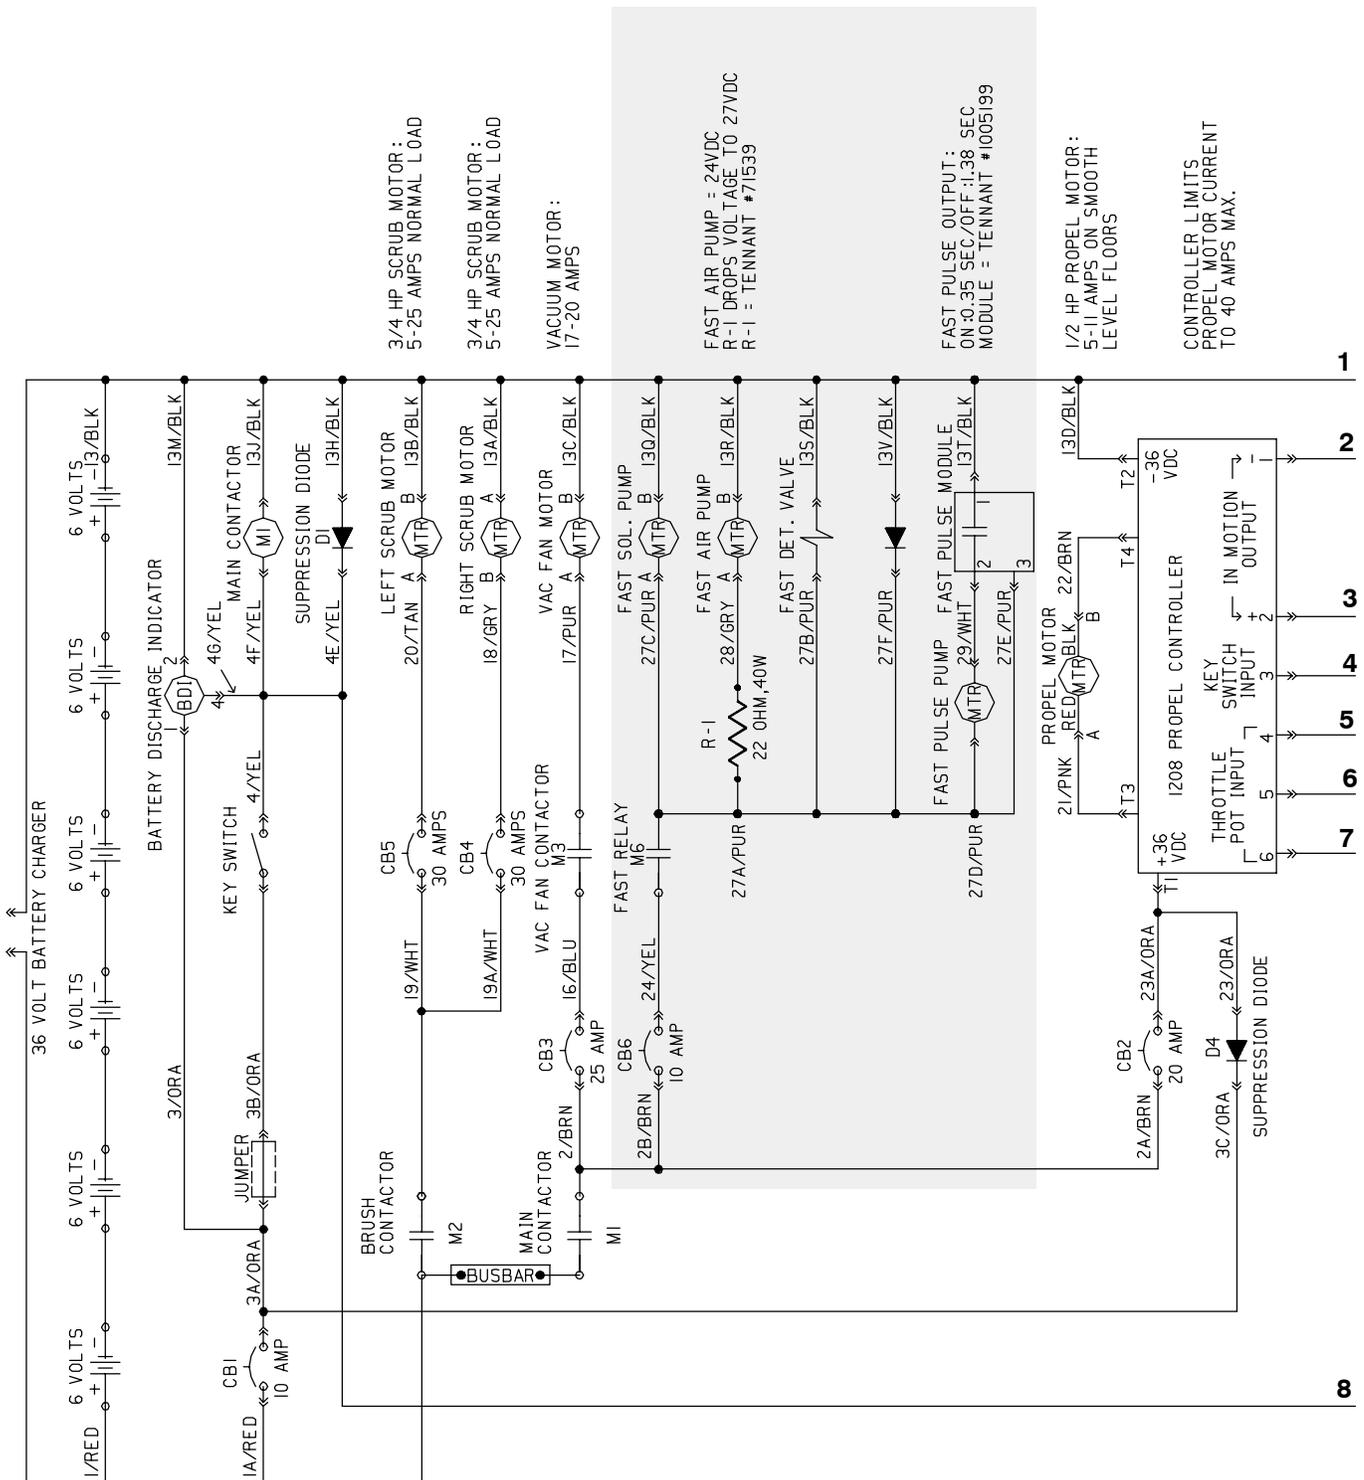

FIG. 2 - Electrical Schematic (012930-)
1. Install wire 2B BRN from the FaST™ harness to the main power contactor where 2 BRN and 2A BRN mount to the 5/16 in. post. (Refer to FIG 2)
8. Install the M6 relay 398526 in the relay box. (Refer to FIG 2 and 7)
9. Using the wiring harness diagram for reference, connect the wires to each component as shown. (Refer to FIG 2 and 3)